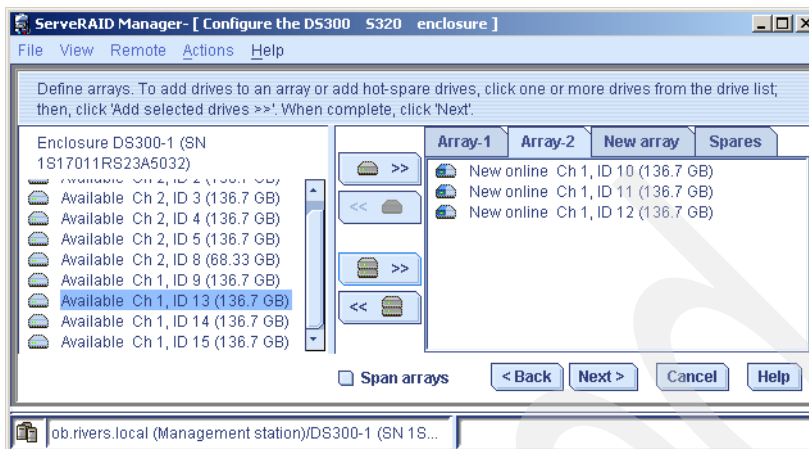

Figure 4-62 Array-2 with three drives
- The selected drives will be added to the new array and the array is named **Array-2**. A new tab named **New array** is created. Figure 4-62 on page 118.